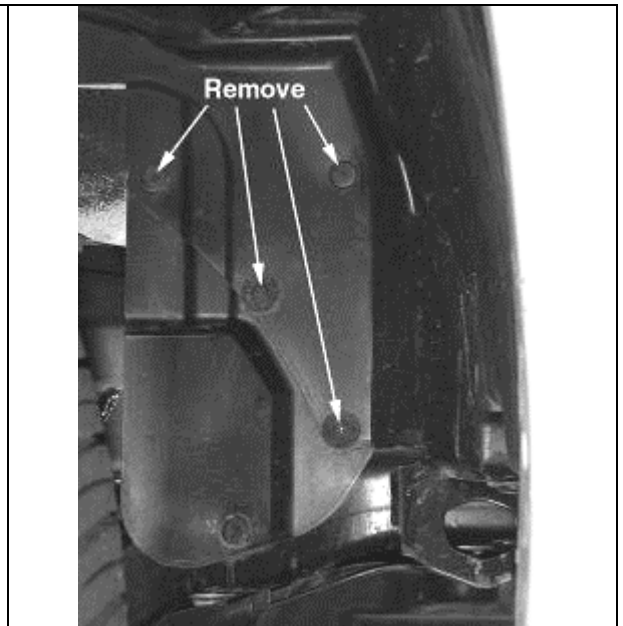

Fig. 4
- h. With the front wheels turned all the way to the right, locate the plastic clips located in front of the suspension. They secure the liner to the passenger side wheel well; remove them. (Fig.4)